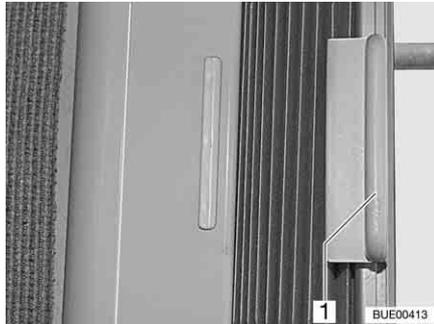

Fig. 38 Roman shade
- Grasp the handle (Fig. 38,1) of the Roman shade and slide to the left or the right.